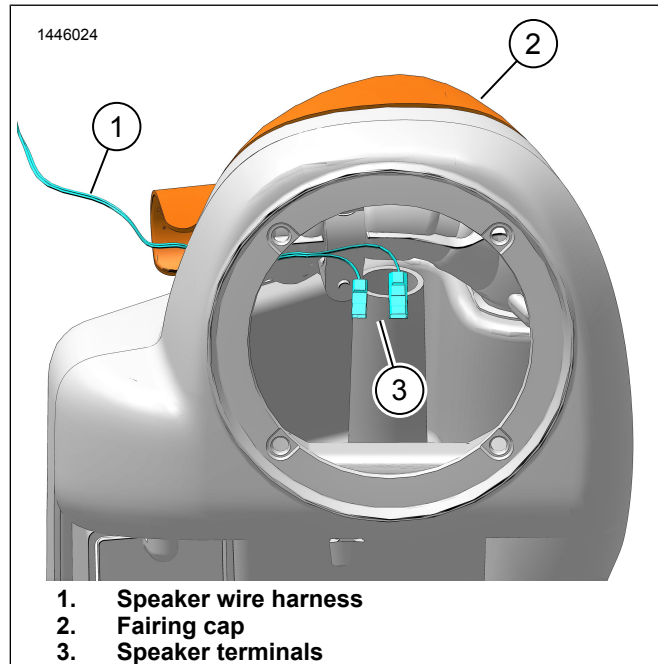

Figure 12. Wire Harness Routing
2. See Figure 12. Route speaker terminals (3) through the grommet in the lower fairing.